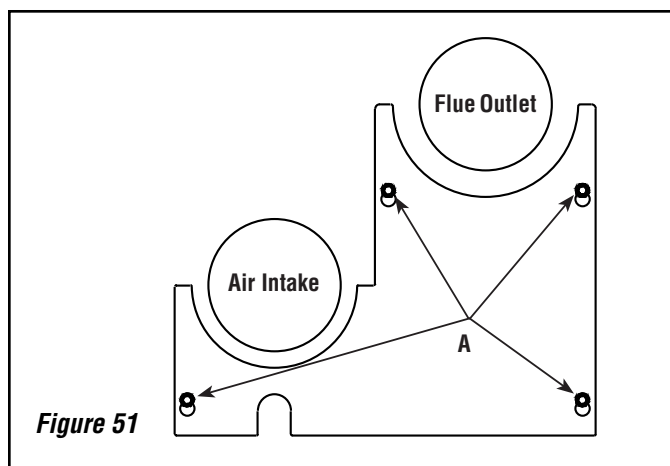

Figure 51
2. If the stove is connected to the vent pipe, loosen the four 5/32" allen head screws (see A in **Figure 51**) securing the lower cover plate beneath the flue outlet, lift the plate slightly and pull the plate off.